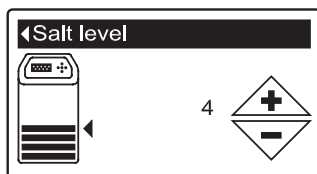

FIG. 23
1. When the conditioner/refiner is displaying the rolling status screens, open the salt lid. The tank light turns on and the Salt level screen appears (See Figure 23).
5. Press the SELECT (O) button to display the Salt level screen (See Figure 23). This screen will not automatically exit for 15 minutes.